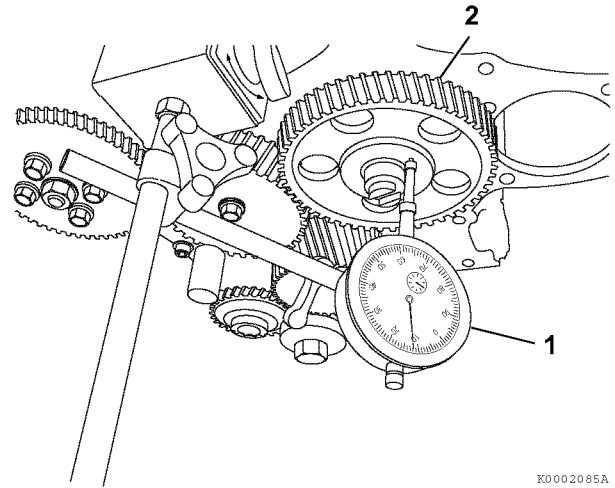

Figure 6-95
- **Method A:** Install a dial indicator (Figure 6-95, (1)) on the cylinder block. Move the camshaft (Figure 6-95, (2)) back and forth to measure the end play. Record the measurement. See Camshaft on page 6-8 for the service limit.